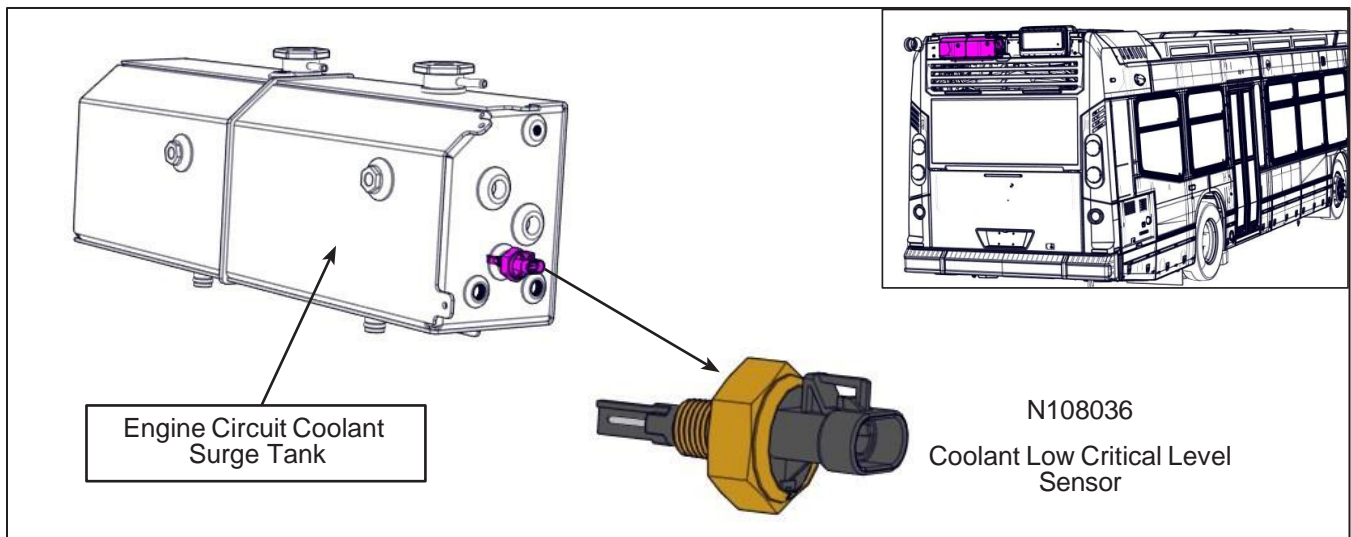

Figure 1 - The Coolant Critical Low Level Sensor Location
- 1.4. Locate the Coolant Critical Low Level Sensor on the side of the engine circuit coolant surge tank (Figure 1).